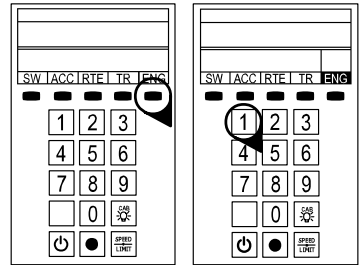

Figure 3. LEGACY engine selection
4. **As illustrated in Figure 3, press ENG and 1 (or your selected ENG ID#) to address the locomotive with your LEGACY CAB-2 Remote Controller.**